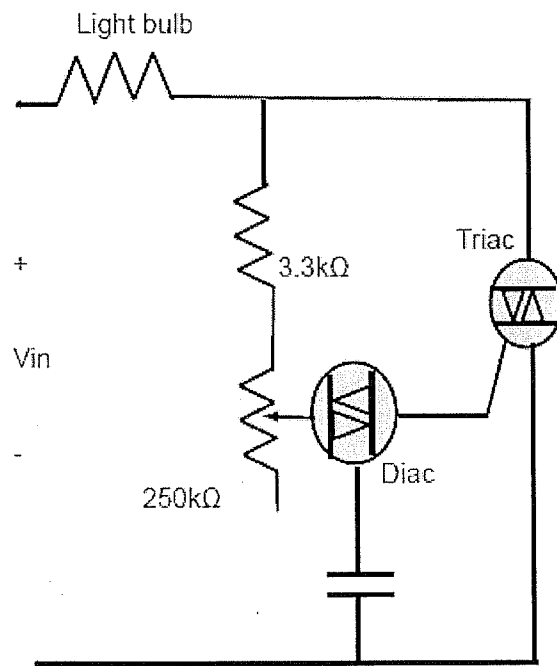

Figure 05
- (1) Define the term firing angle of a light dimmer circuit.
- (2) For a 60Hz sinusoidal input draw the output waveforms when the firing angle is (i) 30° , (ii) 90° and (iii) 150° .
- (3) Identify an appropriate measuring instrument to view the waveforms in (2) and describe the calibration process of the selected instrument.
- (4) For the light dimmer circuit shown in Figure 05, compute the RC time constants when the potentiometer is adjusted to (i) 0Ω and (ii) $250\text{ k}\Omega$. Describe why the RC time constant is important for the circuit operation.